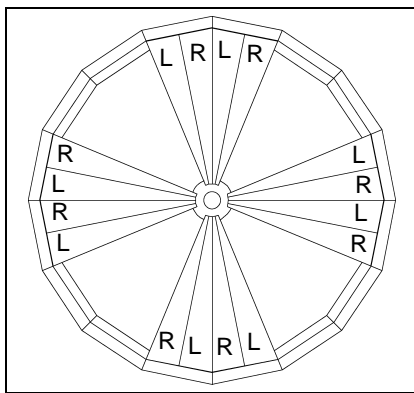
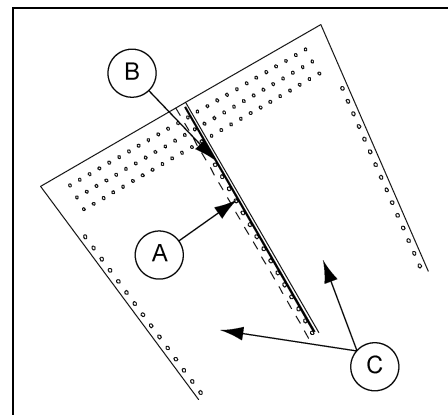
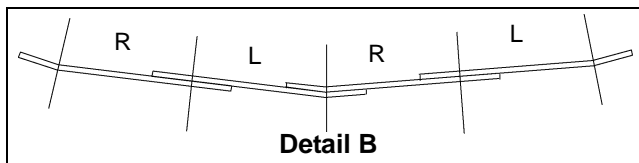
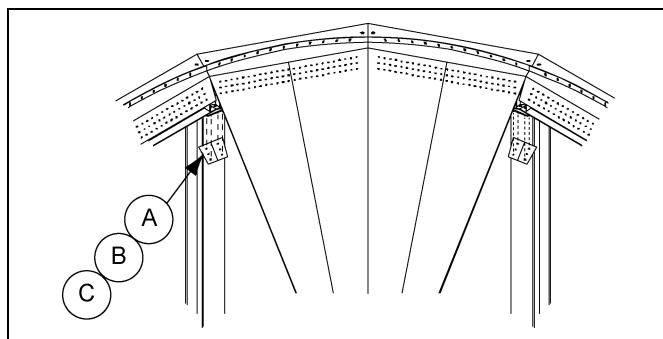

Figure 5D Hopper Panel and Discharge Collar Assembly
Figure 5G Detail A - Caulking Detail
Figure 5E Lap Detail (Viewed from Inside of Bin)
Figure 5F Hopper Panel Detail
Begin assembling the hopper bottom by attaching a right and left pair or pairs of hopper panels to the compression angle ring (3/8" x 1" bin bolt (S-7487)) and discharge collar (1/2" x 1" hardware (S-4492)) at four (4) opposing points as shown in *Figure 5D*. Caulking is required on the vertical seams of the lapped hopper panels (Refer to *Figure 5G*). Splice plates which join the compression angle segments on the back side may be installed following a pair of hopper panels. Refer to *Figure 5F*. Complete this assembly by laying in alternate right and left panels moving around in one direction and lapping all sheets the same way, *See Figure 5E*. Do not tighten bolts until all hopper panels are attached to each other, the compression angle, splice plates and discharge collar.